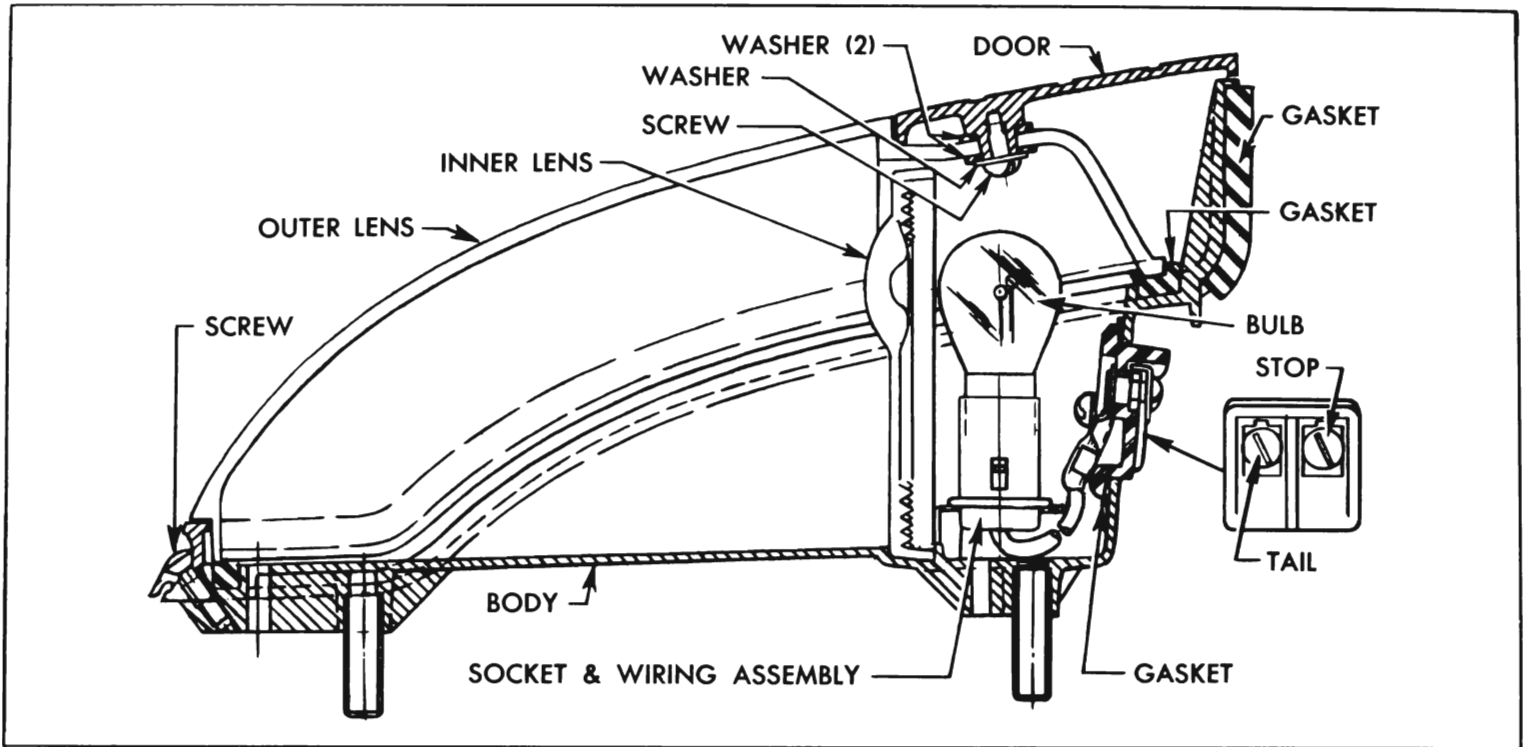

Figure 106—Tail, Stop, and Signal Lamp—1949 Series 50-70
*1949 Series 50-70* are provided with combination tail, stop and direction signal lamps mounted on each rear fender. Each lamp contains one 21-3 CP lamp bulb, which may be replaced by removing the lamp door and lens assembly which is attached by 3 captive screws. See figure 106. The pins on bulb and slots in socket are offset to prevent reversing position of 21 CP and 3 CP filaments when installing a new bulb.